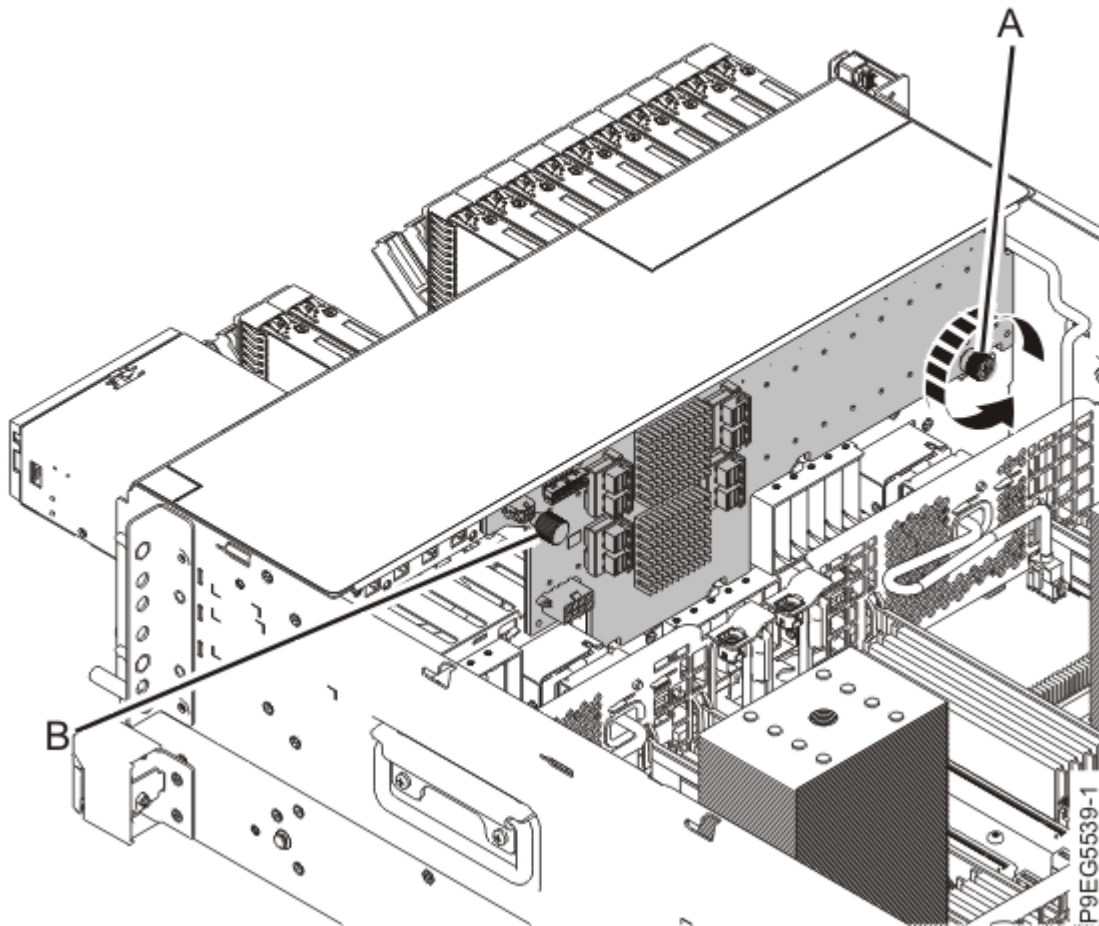

Figure 45. Loosening the disk drive backplane screw
24. Carefully unscrew the captive thumbscrew **(A)** of the disk drive backplane until fully loose as shown in Figure 45 on page 48.